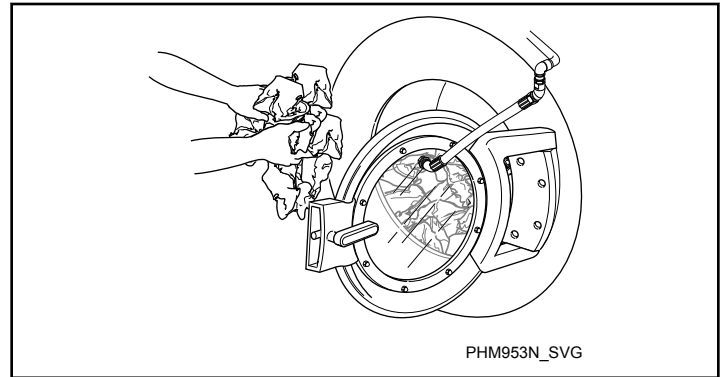

Figure 46
3. Load to capacity whenever possible. DO NOT OVERLOAD. Refer to *Figure 46*.